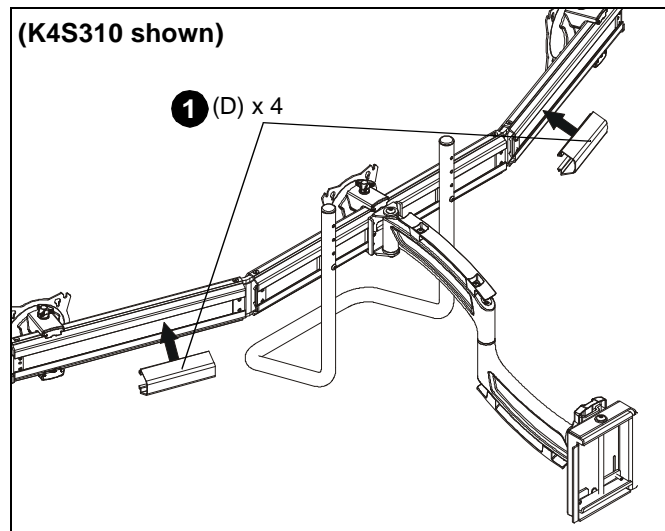

Figure 16
1. (K4S210 and K4S310 ONLY) Install two 4 1/2" cable covers (D) to array arms. (See Figure 16)